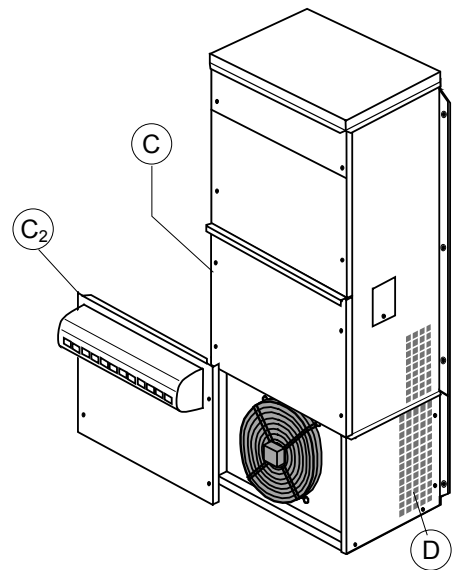

Fig. 11
- WMA; the lower front panel is completely closed (*fig. 11. - panel C*);
The quantity of external air is variable from a minimum value (set using the microprocessor control) to 100% of the air discharged into the air conditioned environment. It is taken in via a special opening mounted on the front panel (*fig. 11. -panel C2*) - which contains a washable metal pre-filter to protect against the entry of leaves and insects.